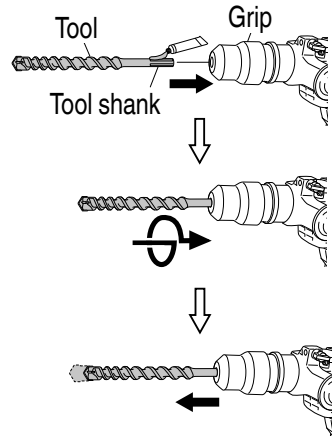

Fig. 9
- (1) Clean, then smear the tool shank with the grease provided in the green tube.
- (2) To attach the tool (SDS max shank), insert it into the hole until it contacts the innermost end of the hole as illustrated in **Fig. 9**.